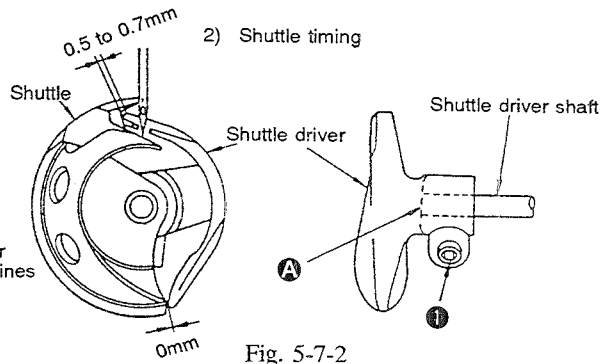
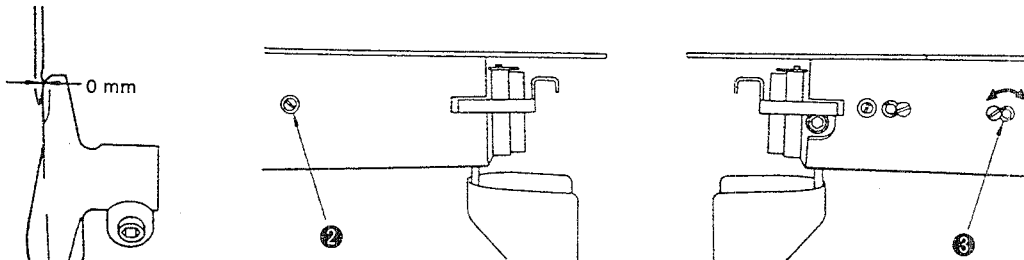

Fig. 5-7-2
Fig. 5-7-3
Under the condition described in step 1) above, the center of the needle meets the blade point of the shuttle. (Fig. 5-7-2)
Under the condition described in step 2) above, there will be no clearance between the needle and the shuttle driver when the end face of the shuttle driver shaft is aligned with side **A** of the driver. (Fig. 5-7-2, Fig. 5-7-3)
The clearance between the shuttle and the shuttle driver is 0.5 to 0.7 mm. (Fig. 5-7-2)
When adjusting the shuttle timing, be sure to turn the shuttle in the direction of the arrow as shown in Fig. 5-7-2.
Strike portion ⑩ to adjust the clearance between the shuttle and the shuttle driver to 0.5 to 0.7 mm as shown in Fig. 5-7-2. After making the adjustment, be sure that portion ⑥ is positioned equidistantly (clearance ⑦ and ⑧ should be equal) and vertically with respect to the shuttle.